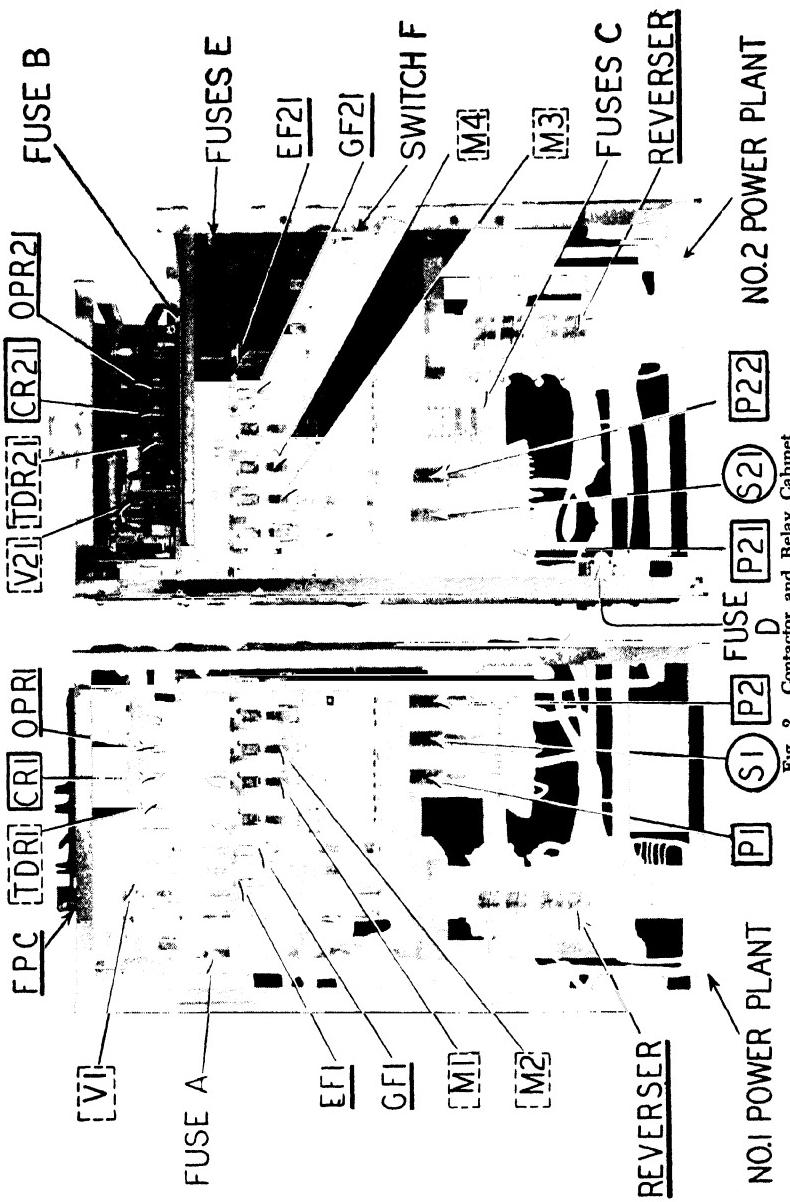
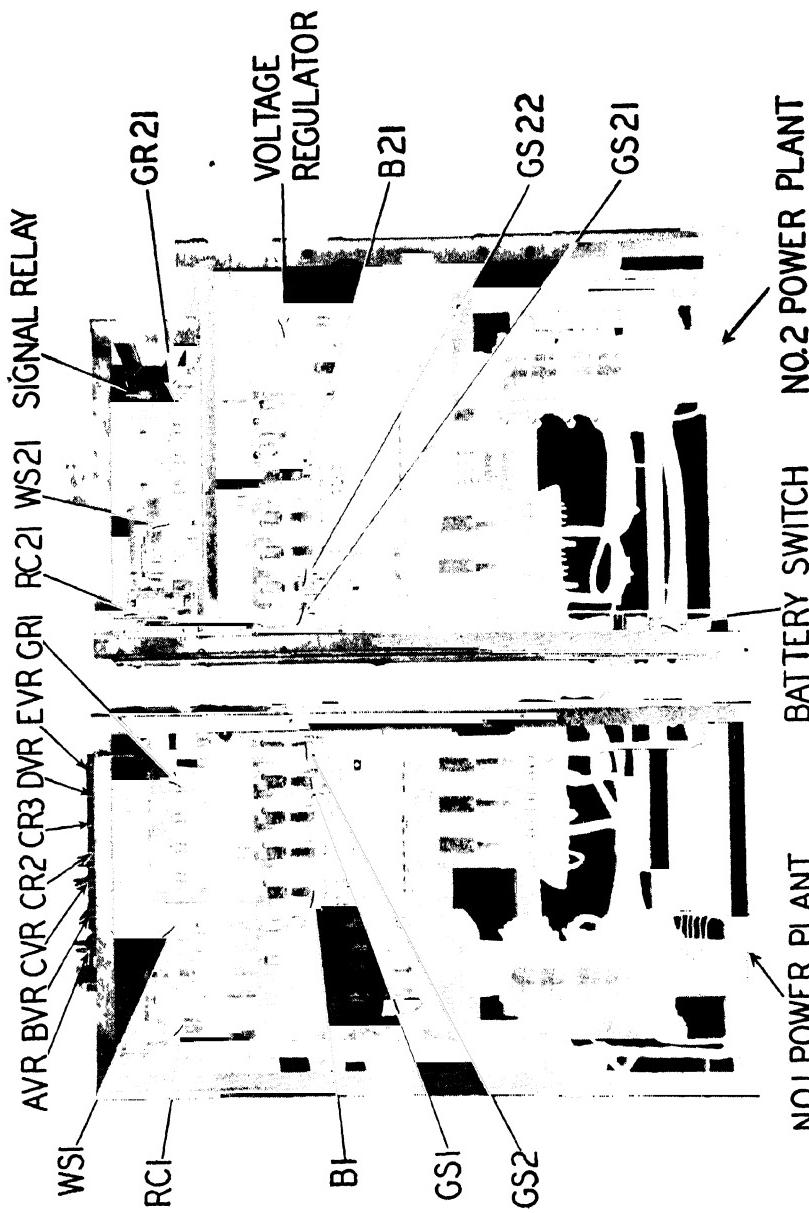

Fig. 2. Contactor and Relay Cabinet
Fig. 3. Contactor and Relay Cabinet
Figs. 2 and 3 show the arrangement of the fuses, switches, contactors, relays, and reversers.
**Contactors and Relays.** The more important contactors and relays are shown in Fig. 2. Observe these contactors occasionally while on the run with the engines running.
5. The remaining contactors and relay positions not indicated above are shown in Fig. 3.
The contactors and relays marked in Fig. 3 are those which were not marked in Fig. 2. They function as follows: